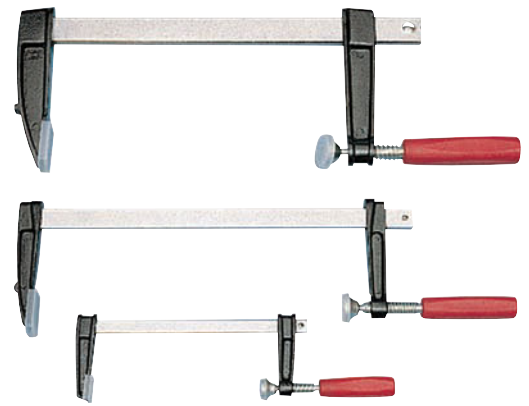

Figure 4.32 Bar clamps
- *Bar clamps* are useful for clamping larger parts. Bar clamps have a sliding lower jaw that can be positioned against the part before tightening the screw clamping end, Figure 4.32. They are available in a variety of lengths.